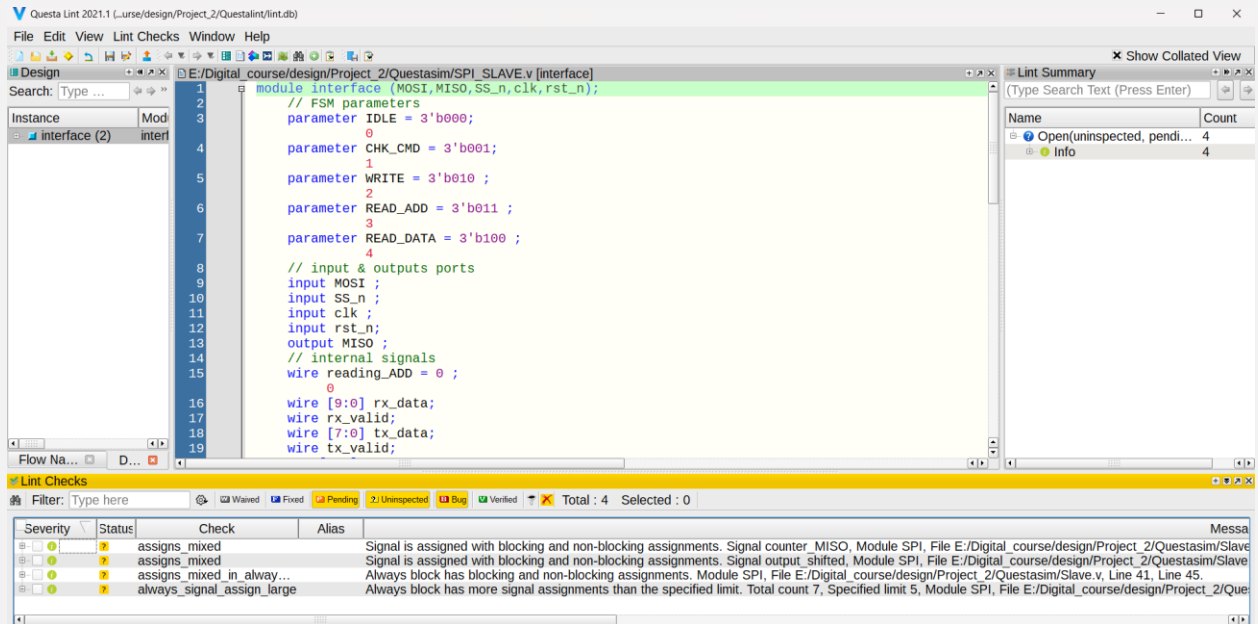

Figure7 : linting
- 2.1. Figure 7: Snippet Showing No Linting Errors